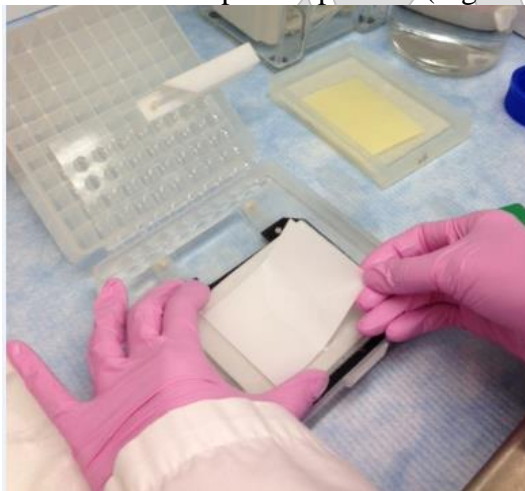
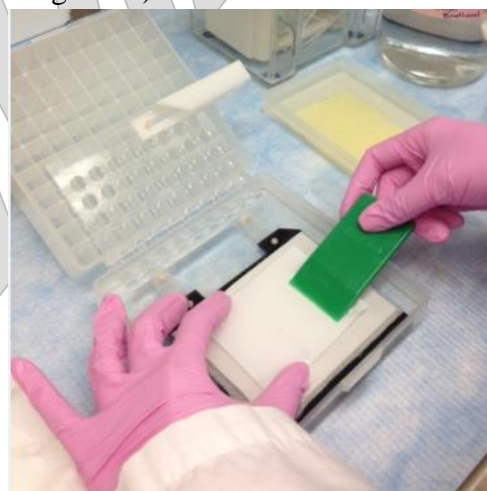

Figure 7e
Figure 7f
5.4.5. Soak in transfer buffer 1 piece of nitrocellulose membrane cut to the size of the gel and place on top of the gel gently and release any air pockets by gently compressing with the plate separator. (Figure 7e and Figure 7f)